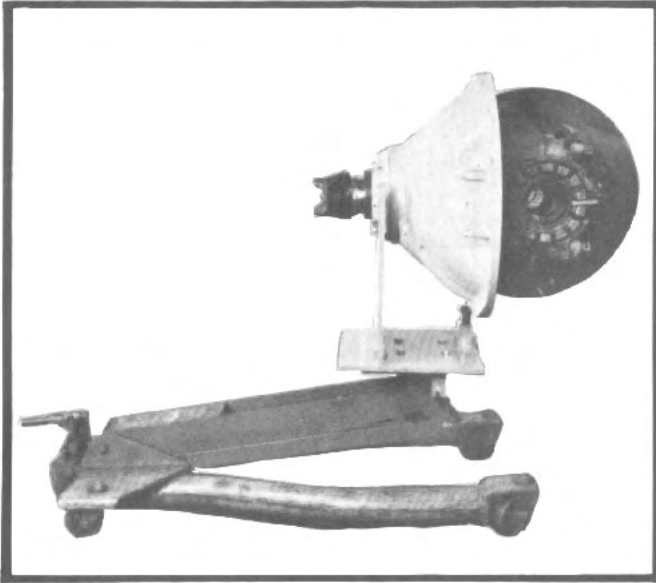

Fig. 19
5. Remove differential carrier from axle housing with a transmission jack equipped with a suitable tool (See fig. 19).
2. Install differential carrier in axle housing with a transmission jack equipped with a suitable tool (See fig. 19).